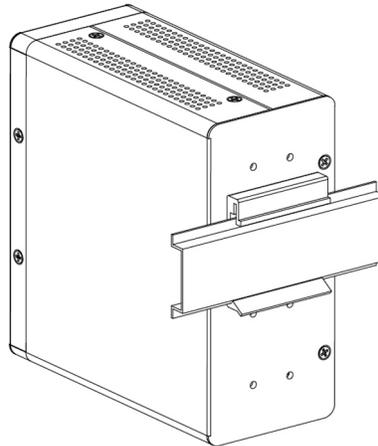

Figure 4. Switch Securely Attached to DIN Rail
3. Ensure that the switch is level and attached securely to the DIN rail as shown in Figure 4.